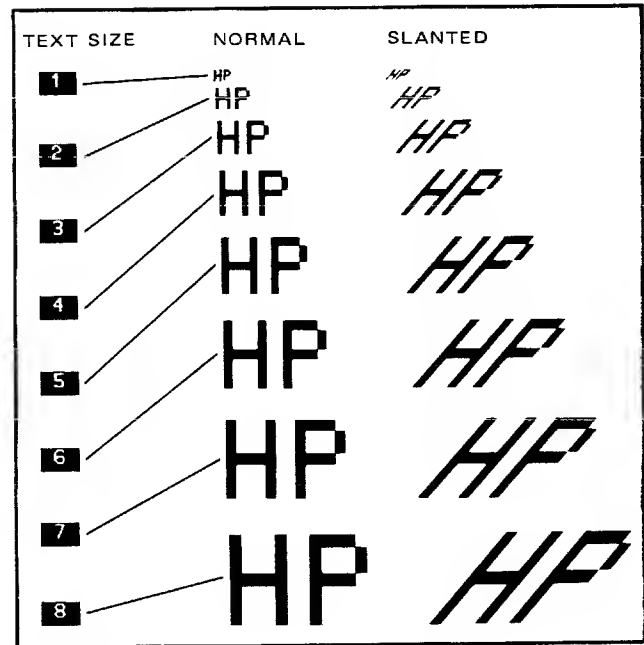

Figure 10-11. Graphics Text Sizes
**SIZE.** The ASCII characters 1 through 8 specify the character size for graphics text. A "1" indicates the smallest character, a 5 by 7 dot matrix character in a 7 by 10 cell. Increasing the size increases the size of the dots. If a text size of 1 is specified, each dot in the cell is one dot on the screen. A size of 2 uses 4 screen dots for each character dot (2 X 2), and so on (see figure 10-11). A size of "1" is the default.